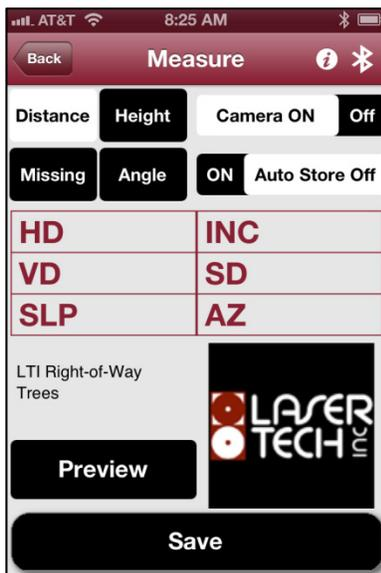
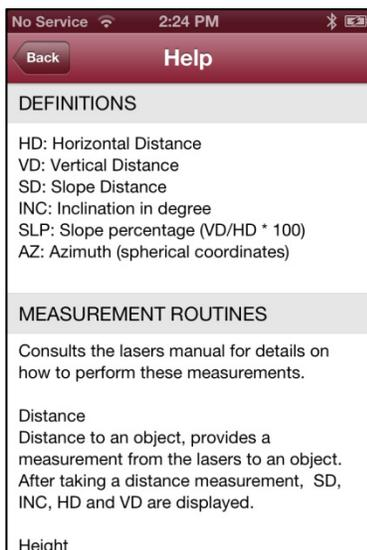

Figure 36
Figure 37
To begin taking measurements, it is helpful to understand the Measure screen and become familiar with the terms used. Below is a summary of Measure screen functions (Figure 36):
- The  symbol in the upper right-hand corner (Figure 36) opens a shortcut to a quick reference guide (Figure 37) and link to the full Measure User's Guide.